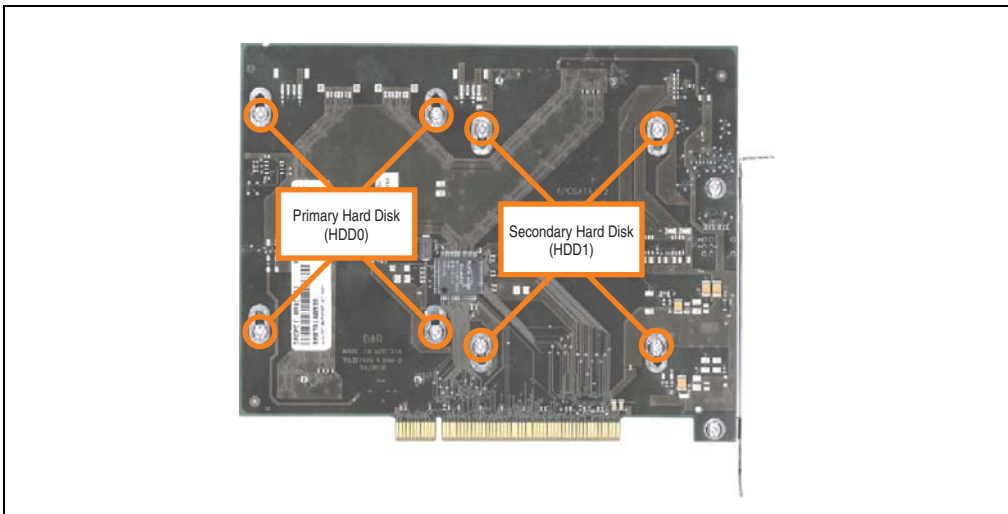

Figure 463: Screw assignment on the back side of the SATA RAID controller
- Loosen the 4 appropriate mounting screws (M3x5) - see Figure 463 "Screw assignment on the back side of the SATA RAID controller", on page 785.